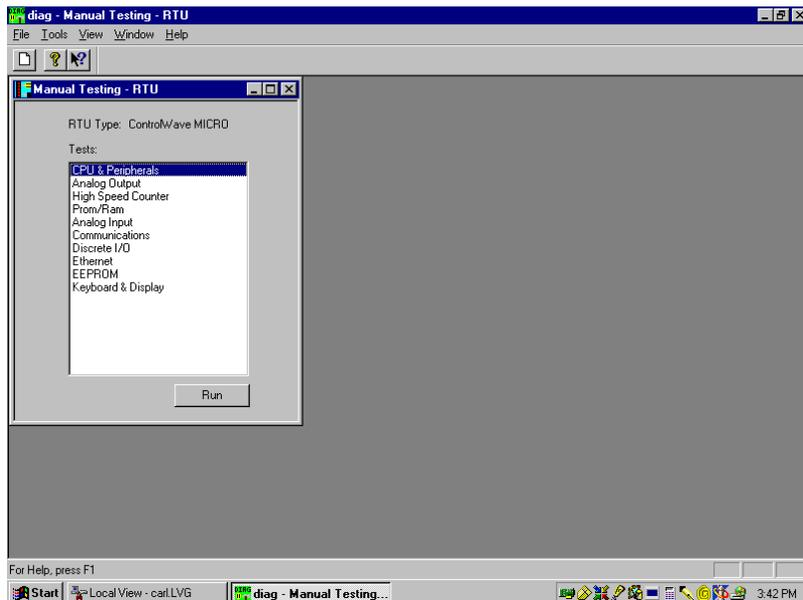

Figure 5-20. WINDIAG Main Diagnostics Menu
2. Select **Start >Programs > OpenBSI Tools >Common Tools >Diagnostics**. The Main Diagnostics menu (Figure 5-20) displays.
Using WINDIAG, you can test all ControlWave modules with the exception of the PSSM. WINDIAG's Main Diagnostics Menu (see *Figure 5-20*) provides the following diagnostic selections: